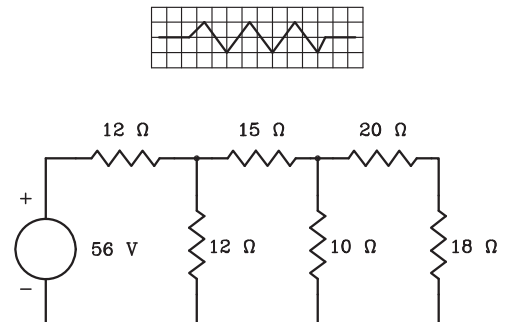

Fig. 33-6
- Draw the electric circuit shown in Fig. 33-6 as follows: Draw the resistor using the mesh shown; then save it as a block. Draw the circuit, inserting the blocks where appropriate. Grid and snap are handy for drawing the resistor and circuit. Finish the circuit by inserting small donuts at the connection points. Add the text. The letter omega ( $\Omega$ ), which is used to represent the resistance in ohms, can be found under the text style **GREEKC** (character W).